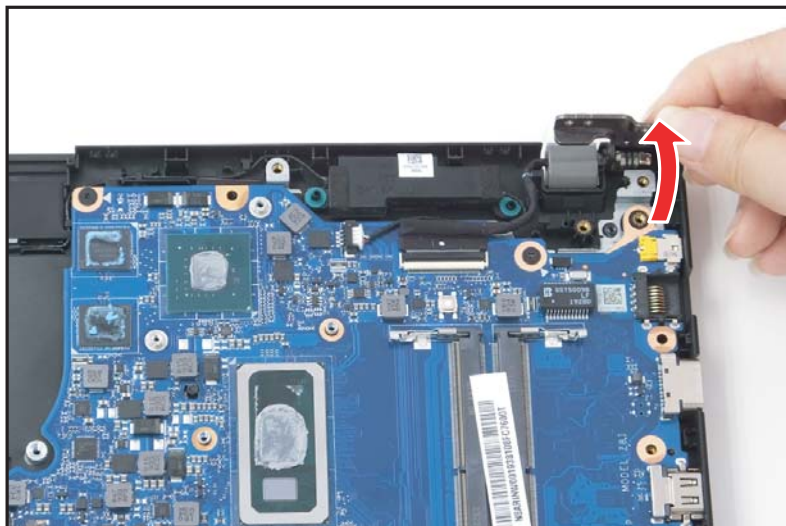

Figure 1-43. Mainboard Removal
3. Close the top assembly and lift the right side of LCD hinge until it is fully extended (Figure 1-43).